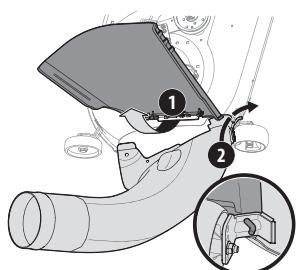

Figure 19
1. With the mower's discharge chute raised up and held open (1), install the bagger chute by placing the bagger chute mounting rod into the bagger chute mounting tab (2), as shown in Figure 19.